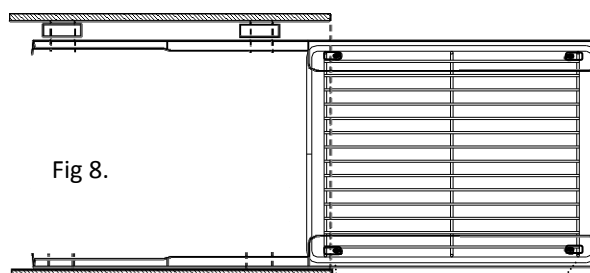

Fig 8.
Place the basket (A) on top of the angle plates (Fig 8).